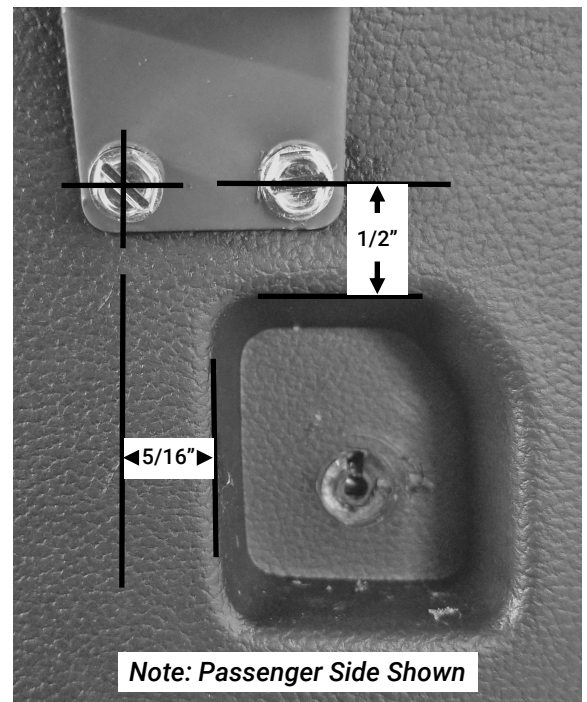

Figure 4
- Measure and mark the location shown in Figure 4 on both sides of the vehicle. This location is the center point for the forwardmost screw for the Support Weldment. It is located 1/2" up from the inside of the top fillet into the OEM pocket and 5/16" forward from the inside of the forward fillet into the OEM pocket.
- Locate the CSC Support Weldment [3CSC472005] and the (4) #8 sheet metal screws [3X618].
- Ensure the bar is level transversely and longitudinally then install the remaining (2) screws. The screws will go through the plastic trim and then into the sheet metal of the D-pillar.